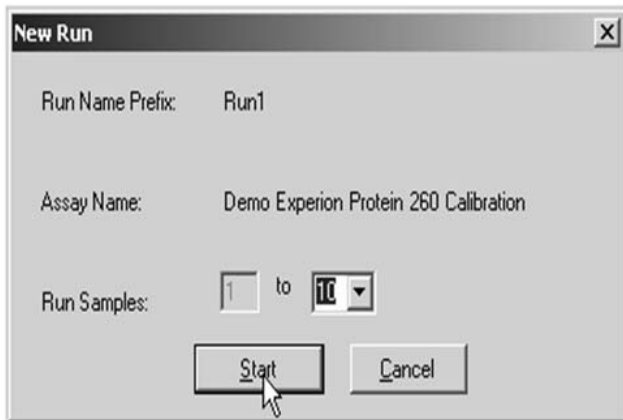

Fig. 1.6. New Run dialog. The Experion system stops analysis when it reaches the number of samples entered.
6. Click the **Start Run** button  at the top of the window to start the run. The **New Run** dialog opens (Figure 1.6).